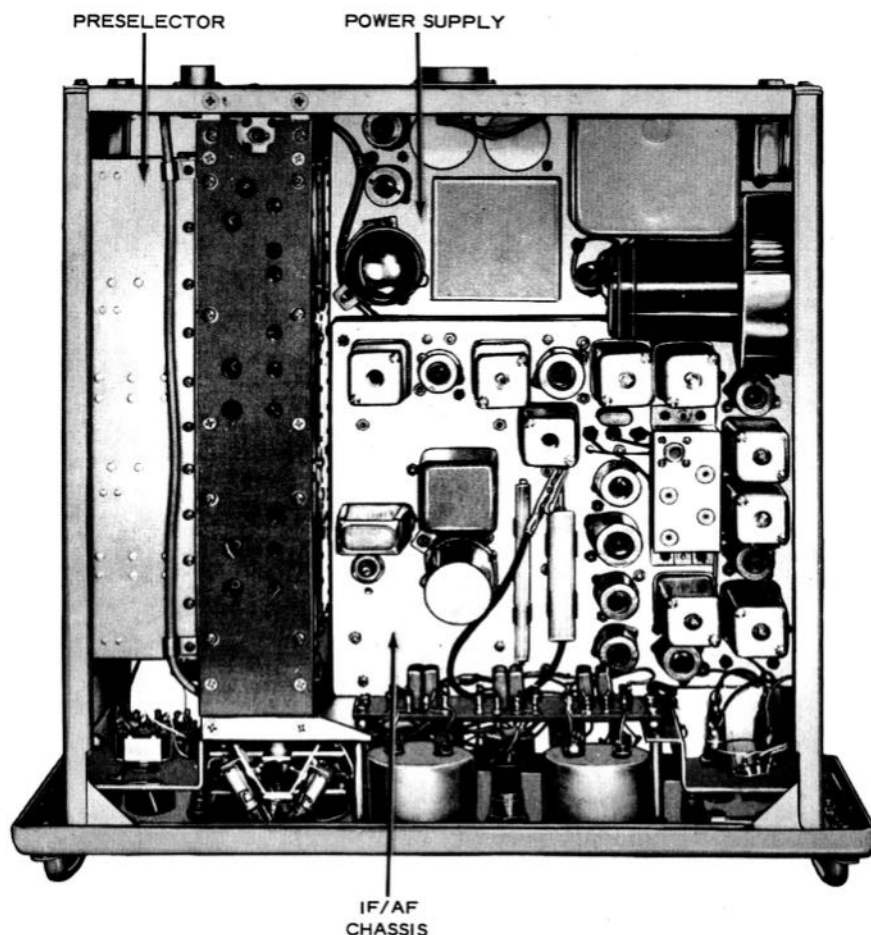

Figure 1-4. Radio Receiver R-482C/URR-35, Identification of Major Subassemblies
b. FRONT PANEL AND CHASSIS FRAME ASSEMBLY.—An aluminum frame, attached to the front panel, mounts the preselector, IF/AF, and power supply chassis to form a complete chassis assembly; see figure 1-4. The panel is finished in gray enamel, which blends with the cabinet color, and is fitted with handles to facilitate withdrawal of the panel-and-chassis assembly from the cabinet. There is a spring-stop mechanism on each side of the chassis which allows it to be withdrawn almost all of the way out of the cabinet, but prevents it from falling out unintentionally. When these stop mechanisms are pressed upward through finger holes on the underside of the chassis frame, the panel-and-chassis assembly can be completely removed from the cabinet. Two hinged doors through the front panel, one at either side, permit access to the crystal, fuses, and semi-fixed controls or adjustments. They are held closed by knurled-head spring fasteners. These are released by turning one half turn to the left.
c. PRESELECTOR SECTION. (See figures 1-4, 2-2 and 2-3.)—The preselector section is mounted along the left side of the chassis frame, and comprises all parts of the r-f amplifier-converter and oscillator-multiplier sections. The r-f amplifier-converter section is above the oscillator-multiplier section, and each consists of an aluminum casting with removable metal covers. The two r-f amplifier stages and the mixer, or first detector, are mounted in the r-f amplifier-converter section. The fundamental oscillator, two frequency doubler stages, and one frequency tripler stage are mounted in the oscillator-multiplier section. Partitions in the castings provide r-f shielding between the stages.
e. IF/AF SECTION.—The IF/AF section of the chassis is shown in figure 1-4. It is located on the right-hand side of the chassis frame, and mounts the second mixer and oscillator, the i-f stages, the a-f detector, the automatic-gain-control (AGC) circuit, the silencer circuit, the noise-limiter circuit, and the three stages of audio amplification.
f. POWER SUPPLY SECTION.—The power supply section of the chassis, shown in figure 1-4, is mounted